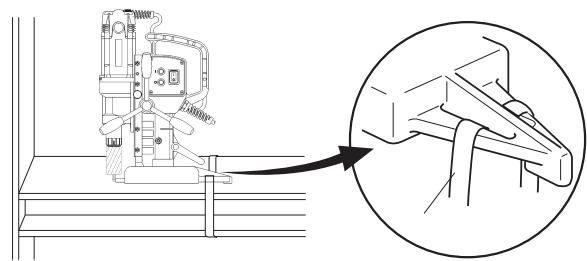

Fig. 4
- This machine comes with a Safety strap. The Safety strap is to be used to fasten the machine to the work piece. If you do not use the Safety strap, it is possible that the machine may fall. (Fig.4)